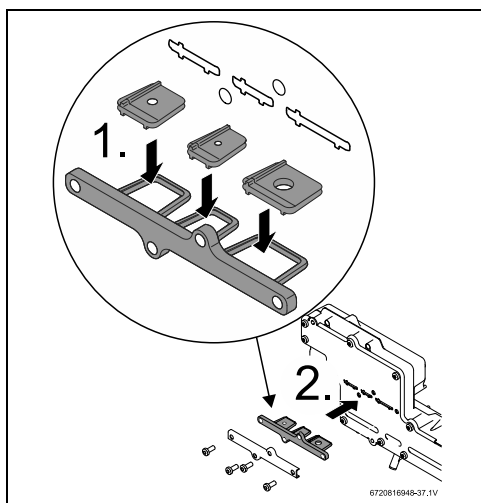

Fig. 38 199kBTU appliance gas conversion kit
- ▶ The 3 restrictor plates should be pre-assembled onto their tray, but if loose in box, follow installation instruction, as shown in fig. 38 [1].
- ▶ Insert the LP conversion plate in the appropriate location shown in Fig. 38 [2].
- ▶ All three flow restrictors and seal must be assembled according to the Fig. 38, to assure correct appliance performance.